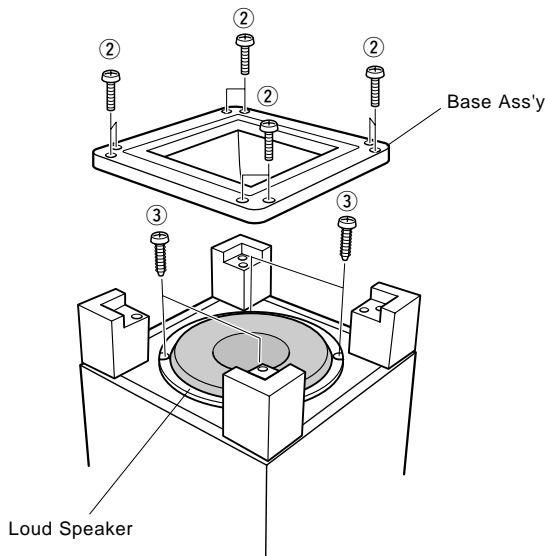

Fig. 2
- a. Remove 8 screws (②) and then remove the Base Ass'y in Fig. 2.
- b. Remove 4 screws (③) and then remove the Loud Speaker in Fig. 2.